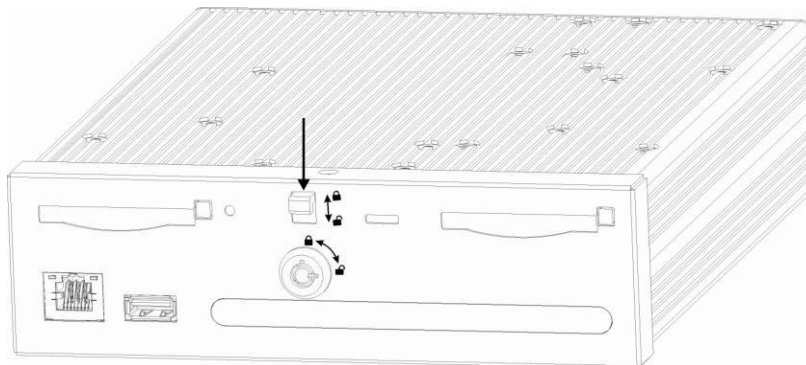

Figure 3-4
1) Unlock CF card. Please insert the key to the hole and the turn clockwise to open the lock. Please follow the arrowhead in Figure 3-4 to push the handspike. .